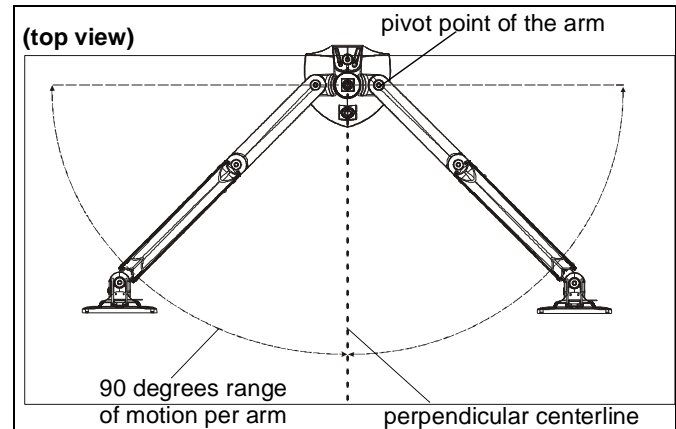

Figure 10
1. Adjust arm angles as desired within a 90 degree range from the pivot point of the arm and a perpendicular centerline of mount. (See Figure 10)